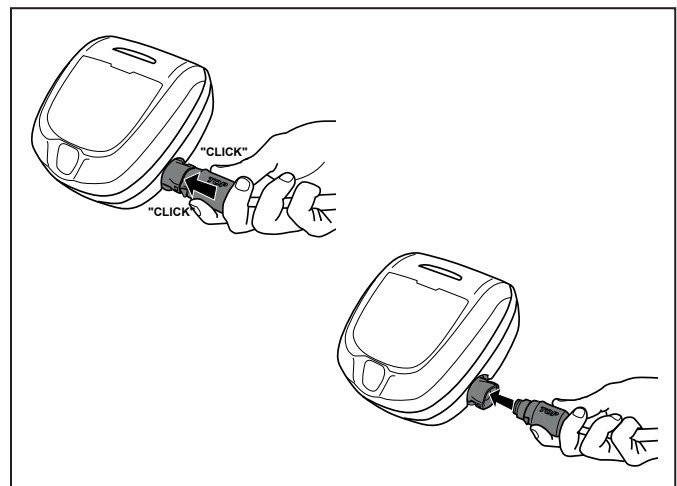

Figure 10. Remove Protective Cap and Connect Power Cable
2. Grip the notched end of the floating power cable, insert into the Control Unit and click to lock. (Figure 10.)